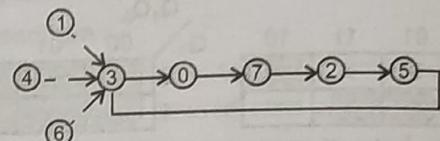

Fig. 3.86
Example 3.20 : Design synchronous counter using D flip flop for the sequence as shown in Fig. 3.86.
- From Fig. 3.86, it is clear that number of states is 8. Therefore, three D flip flops are required to design the counter.
- As shown in Fig. 3.86, for present state 3 next state is 0, similarly for present state 0 next state is 7 etc. Based on this, the Table 3.46 is prepared.